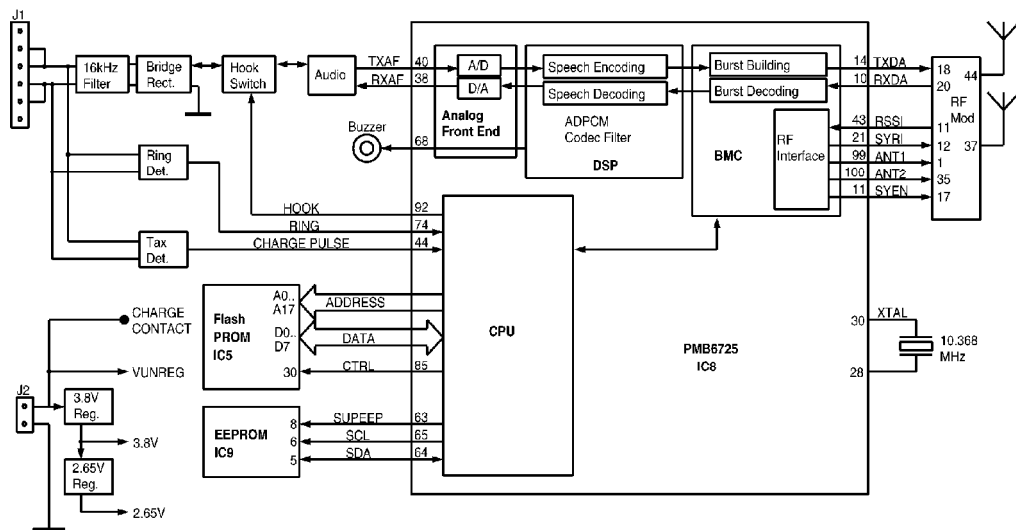

Fig. 17
5.1.1. INTRODUCTION (SEE Fig. 17)
5.2. THE LINE INTERFACE SECTION (SEE BLOCK DIAGRAM Fig. 17)